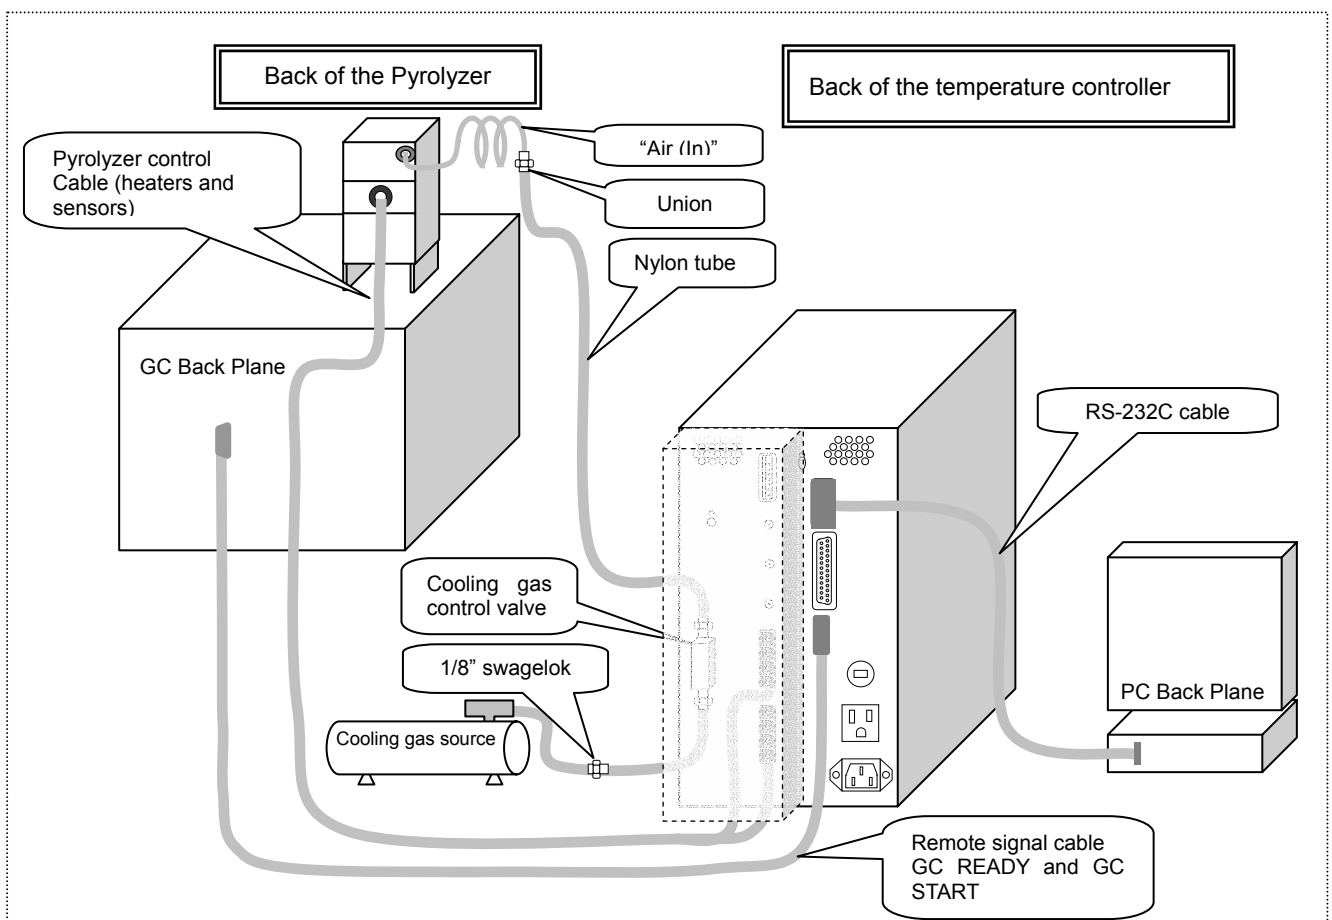

Fig. 3.13 Connection Scheme of Double-Shot Pyrolyzer PY-2020iD, Temperature Controller, and GC
STEP 10 Mounting Pyrolyzer (Fig. 3.13)
STEP 11 Connecting control cables (Figs. 3.13 and 3.14)
STEP 12 Connecting cooling gas line to Pyrolyzer (Figs. 3.13 and 3.14)
STEP 13 Connecting remote signal cable (Figs. 3.13 and 3.14)